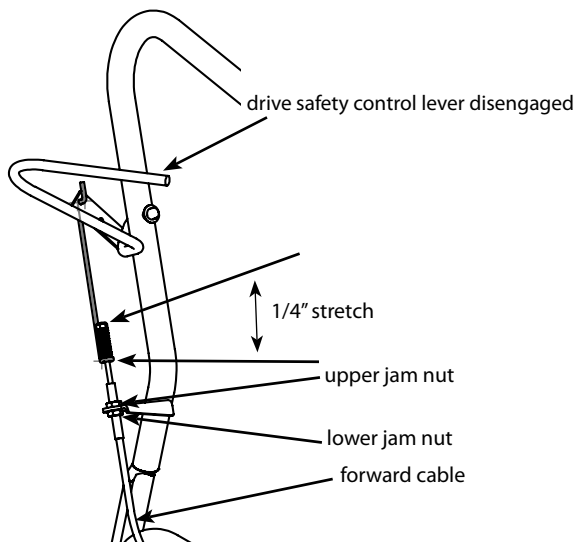

Figure 5: Model 3310V Handlebar
**To increase belt tension: SEE FIGURE 5.**
4. Pull down on drive safety control lever and measure length of spring when compressed. Ideal length would be 1/4" shorter. **SEE FIGURE 5.**